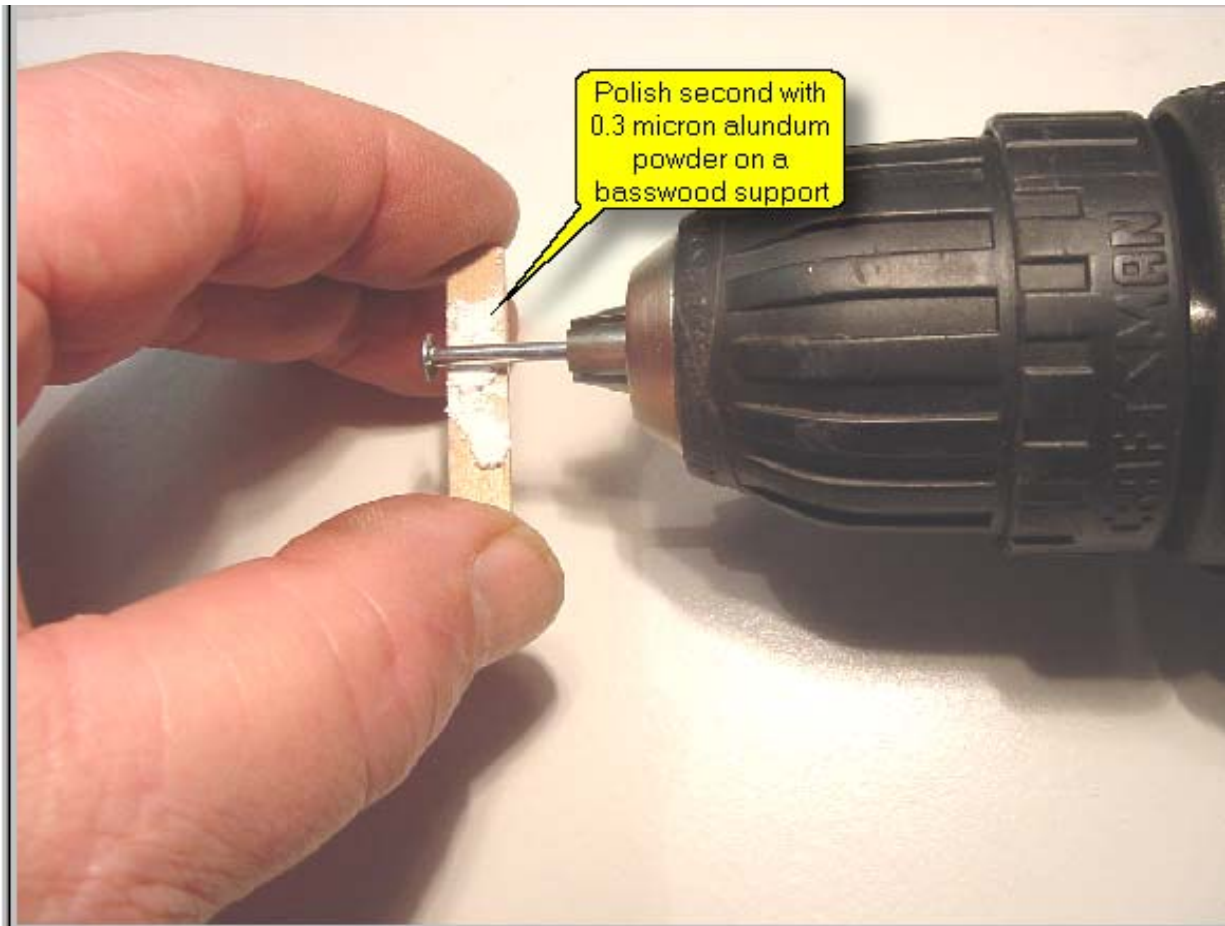

Figure 6 - Applying the aluminum oxide polishing powder. This is a common powder also used to polish precious and semi-precious stones.
- As in **Fig. 6**, rub with mild pressure along the axle shaft and underneath the head for about 15 seconds.